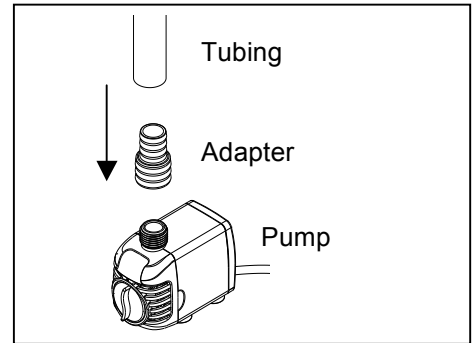

Fig. 1
1. Connect tubing to the outlet of the pump with the appropriate adapter. Fig. 1